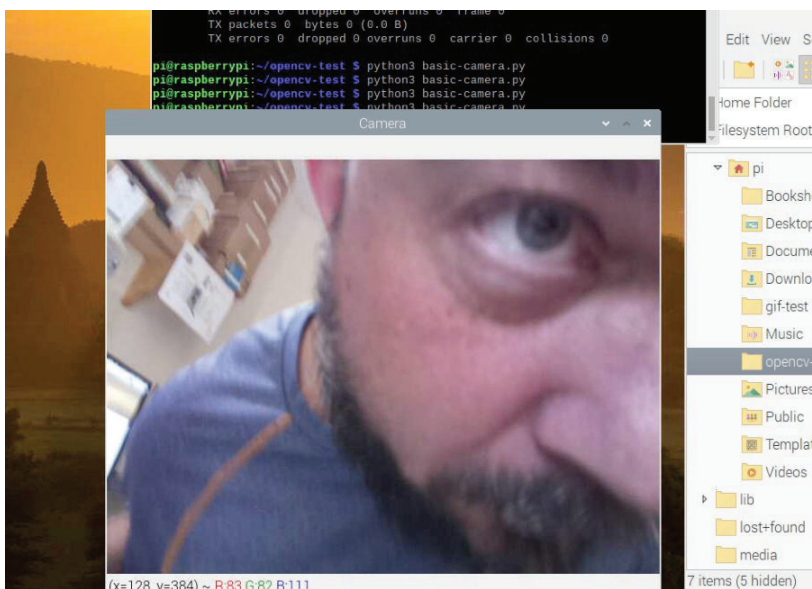

Figure 9-10. *Outputting camera input to the display*
2. With your camera plugged in, run the script. You should see a window pop up with a view from the camera, as in Figure 9-10.